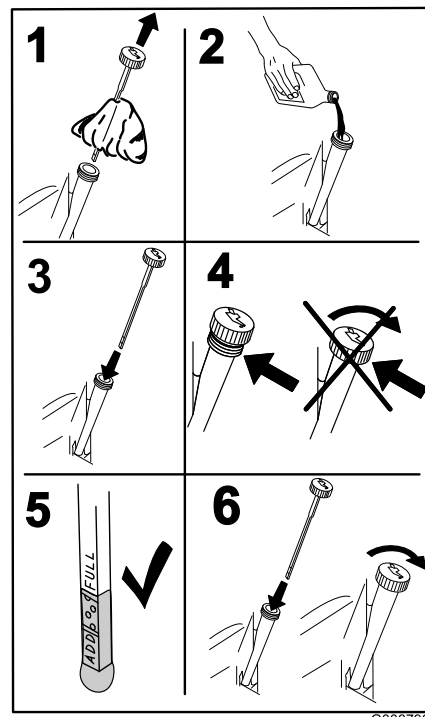

Figure 33
7. Slowly pour approximately 80% of the specified oil into the filler tube and slowly add the additional oil to bring it to the **Full** mark (Figure 33).